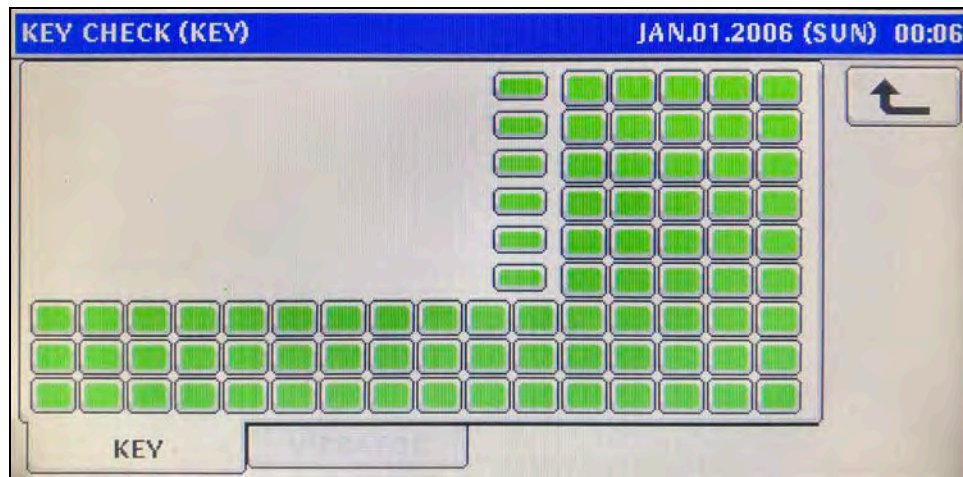

Figure 33. Membrane Key Check Screen after Completion
22. Confirm operation of the keyboard. See Figure 33.